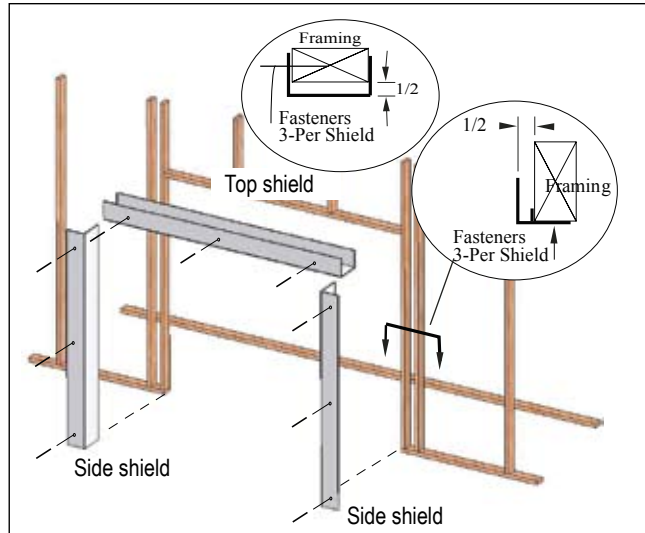

Figure 24a. Combustible surround Shield, (three (3)-pcs).
Included with the L52-DF Gas fireplace, is a heat shield fabricated from galvanized steel. The kit comes with three (3) pieces as shown below. This shield is to protect all adjacent combustible mantels and mouldings from excessive heat radiated by the cabinet of the fireplace. This shield must be installed as shown in **Figure 24a**.